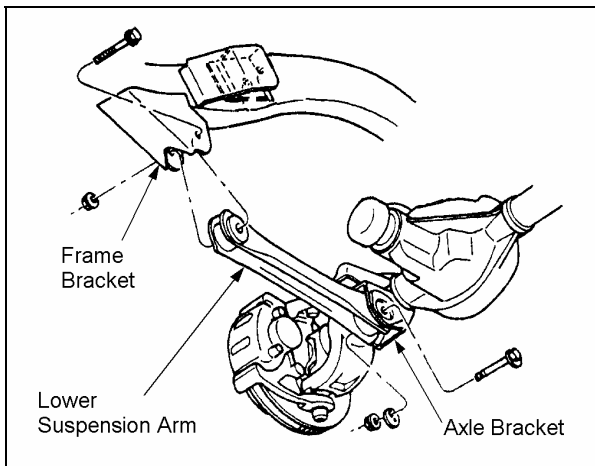

Figure 4
4. ☐ Remove the nut, cam, and cam bolt from the axle bracket. Remove the nut and bolt from the frame bracket. Remove the lower suspension arm. See Figure 4